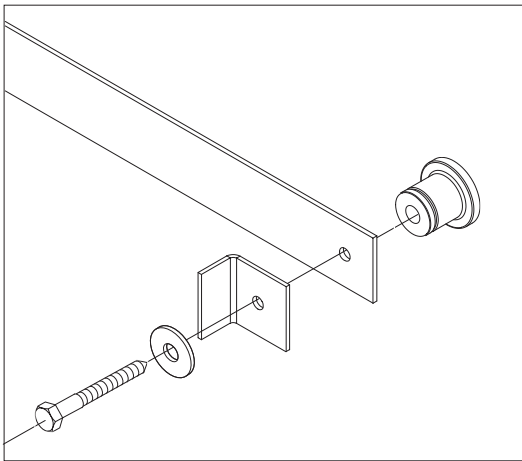

Figure 4
7. Attach one end of the track to the wall with one soft stop, one lag screw, and one washer (provided) using a socket wrench with 9/16" socket (Figure 4). Do not tighten.